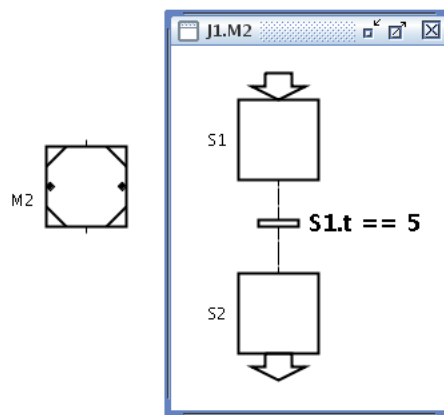

Figure 8 Macro step M2 and its subworkspace containing the enter step S1, the exit step S2, and a transition.
**Macro Steps** A macro step represents a hierarchical abstraction and contains its own (sub-)workspace, see Figure 8. The subworkspace is opened/closed with Show/Hide Body in the macro step's context menu. The first step in the macro step is represented by a special enter step. Similarly the final step of the macro step is represented by a special exit step. The enter step and the exit step are otherwise ordinary steps and may for example have actions.